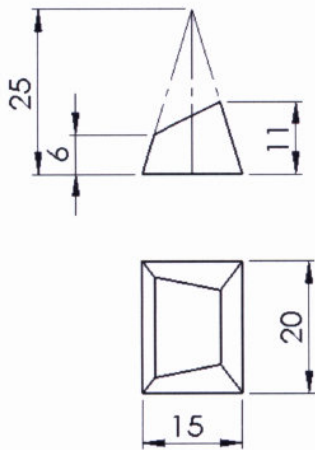

Figure 3
3. Two views of a truncated regular rectangular pyramid in first angle projection are given in figure 3. Using a scale of 1:1, draw the sheet steel needed to make this pyramid, ignoring the thickness of the metal. Unit: mm (10 Points)